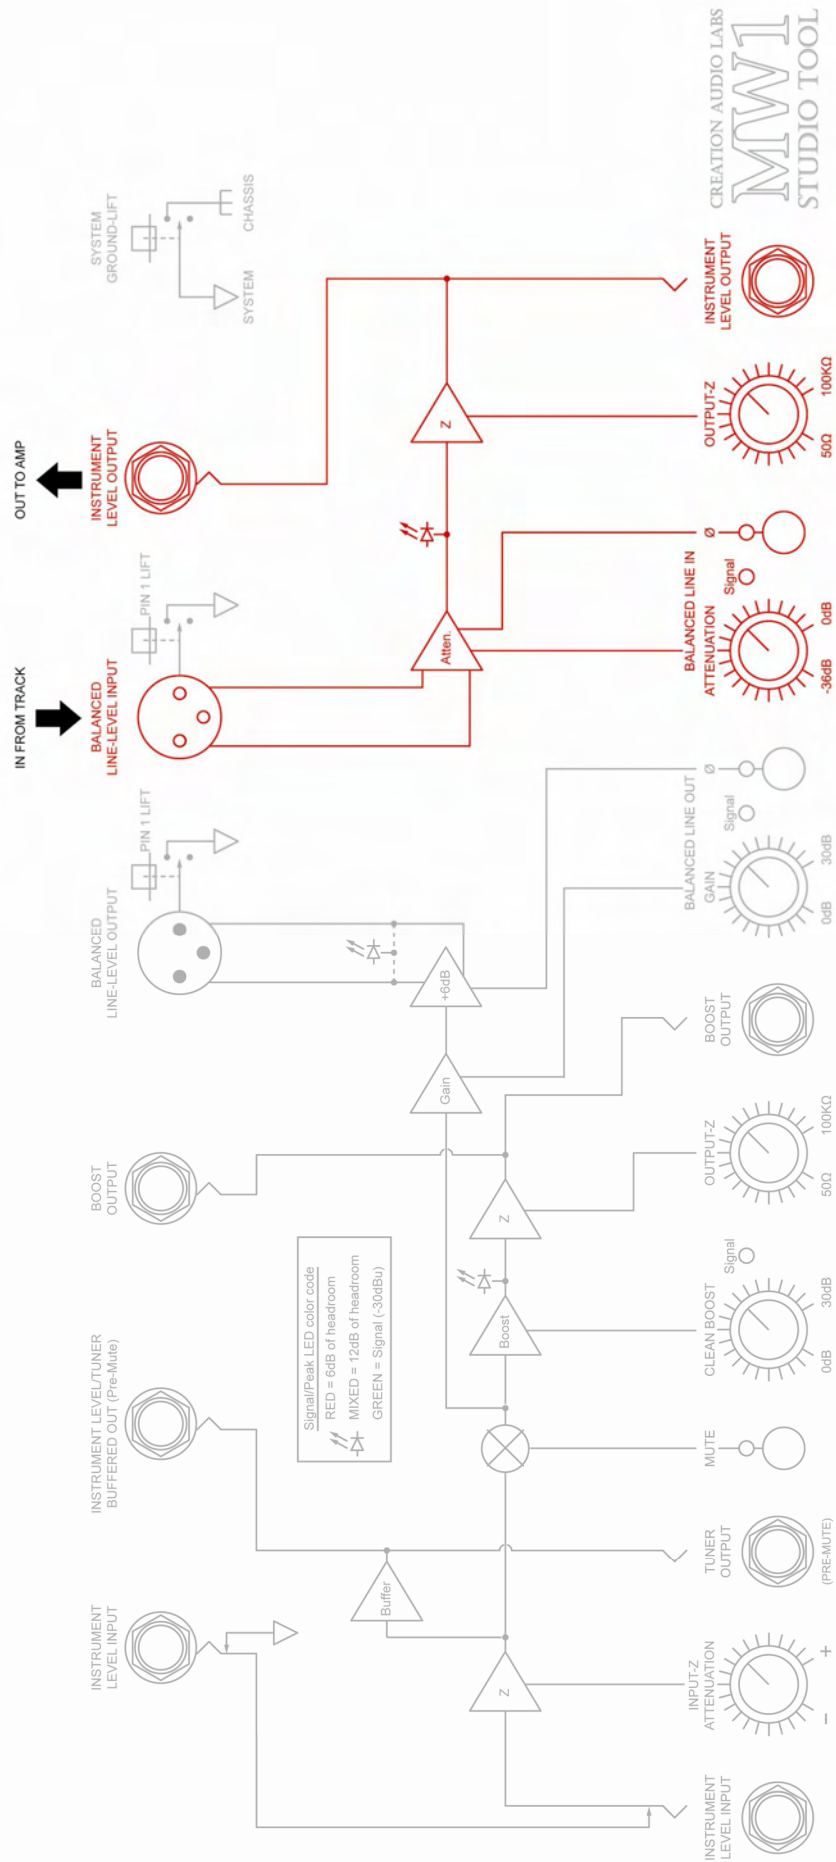

FIG. 5
- Re-amplification of pre-recorded tracks. (FIG. 5 & FIG.. 9)
- Record tracks at low volume using plug-ins, DI, interfaces, or small amps, then re-amplify at high volumes when appropriate. (FIG. 5)